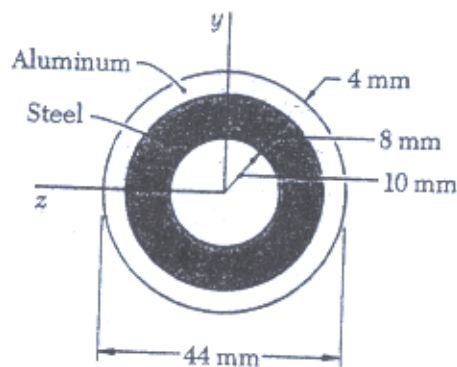

Fig. 1
1. A steel pipe and an aluminum pipe are securely bonded to form the composite beam as shown in Fig. 1. The Young's modulus is E_s for the steel and E_a for the aluminum. Further, the shear modulus G_s for the steel and G_a for the aluminum.